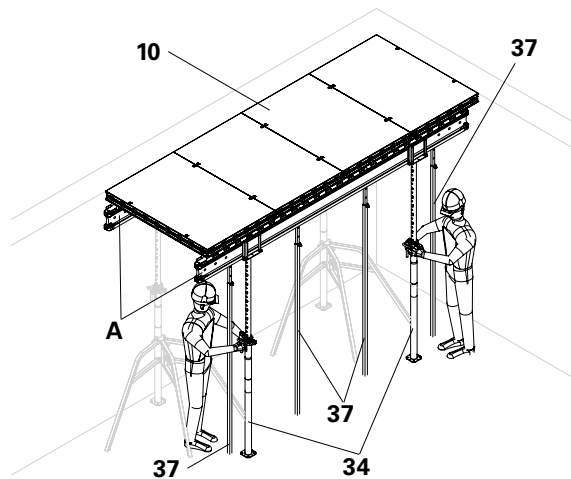

Fig. D6.14
- Place four panels (DP 135 x 90) (10) on each VT 20 L = 3.60 m (A).
- Place three panels (DP 135 x 90) (10) on each VT 20 L = 2.65 m (B).
5. Repeat points 3 and 4 for the neighbouring DUO DP panels (10) until the girder is filled with DP panels (10). DP panels (10) that no longer fit onto the current girder are placed on the next girder.
6. Place the second girder (A) and the slab props that support it beneath the edge of the DP panels (10). Adjust the slab props (43) to the correct height. The distance between the first and second row of props must be 1.20 m. The second girder supports the next row of panels. (Fig. D6.14)